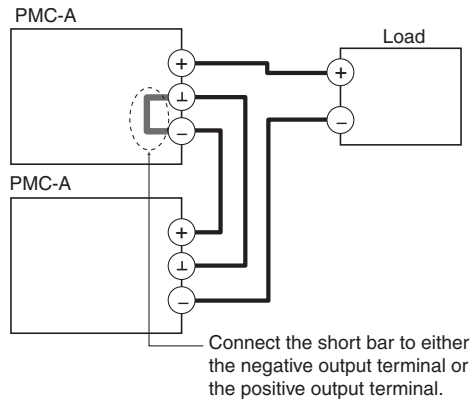

Fig. 4-6 Series Operation
4. Connect the power supplies as shown in Fig. 4-6.